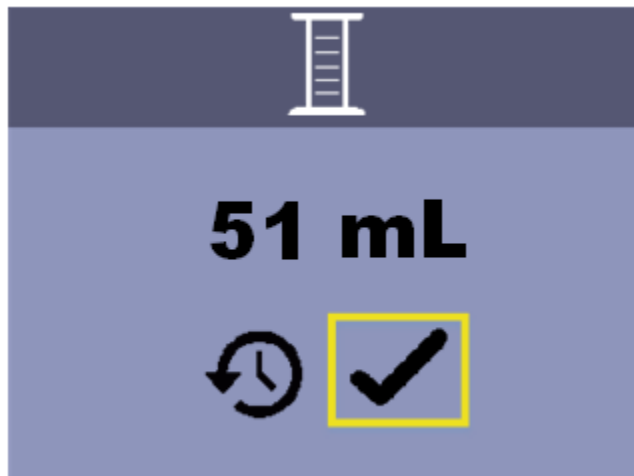

Figure 22: Calibration Confirmation Screen
- g. Press the **Enter Button** to move to the Calibration Confirmation Screen (Figure 22) or press the **Menu Button** to cancel.